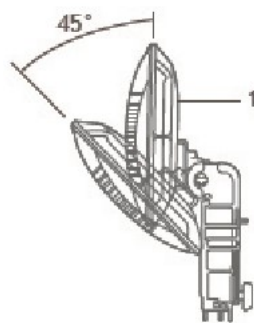

Fig. 2
Attach the power cable fastener (11) to the lower tube (10), and use the screw (12) to fasten it in the desired position. Loosen the screws (8) on the middle tube (9). Use the 4 screws (8) to firmly screw the middle tube (9) to the lower tube (10) (see Fig. 2).